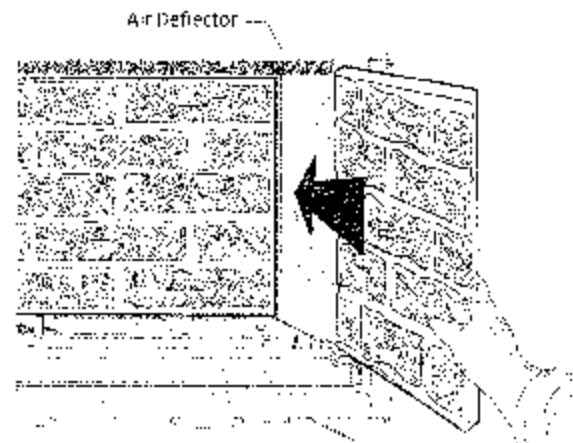
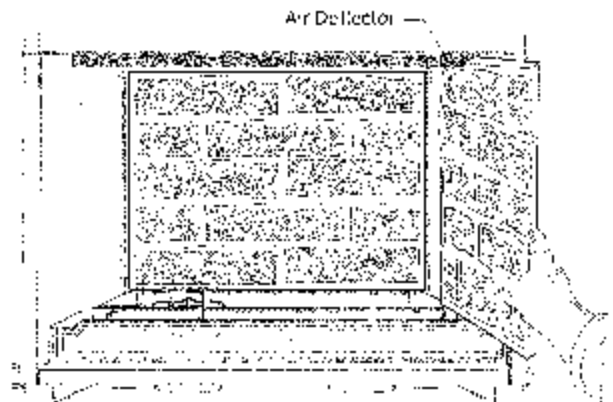

Figure 22a. Install Side Panel vertically.
Figure 22b. Install the Side Panels taking care to clear the Air Deflector.
4. Install the Side Panels. Orient the panel straight upright, with the leading edge on the support shelf, as shown in fig. 22a. Slide the panel all the way back, keeping it sandwiched between the side wall and the end of the air deflector. See fig. 22b.